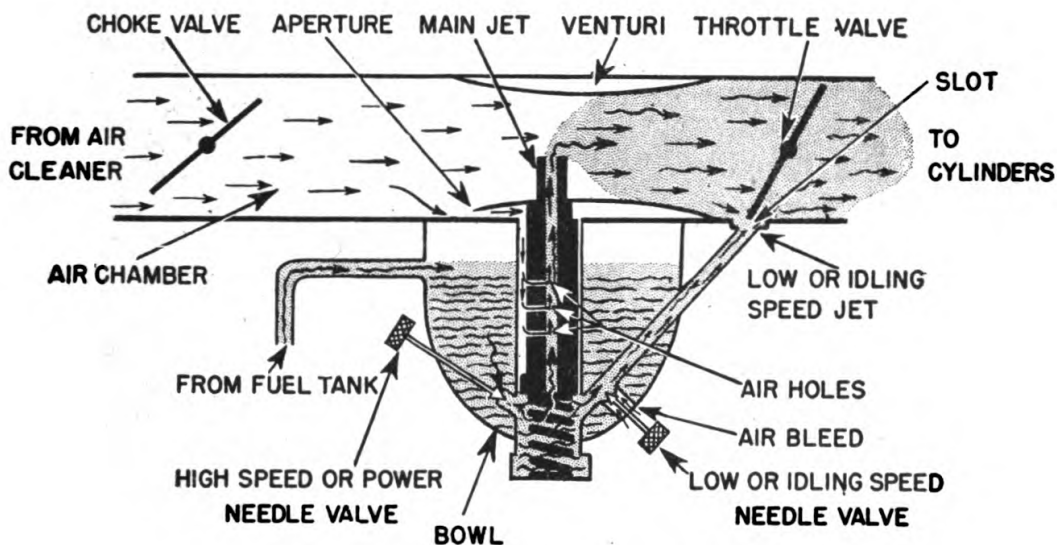

FIGURE 81.—Operation of a plain tube carburetor.
*a. Operation of carburetor.*—(1) The fuel charge is mixed in the carburetor and delivered to the cylinders as indicated in figure 81.